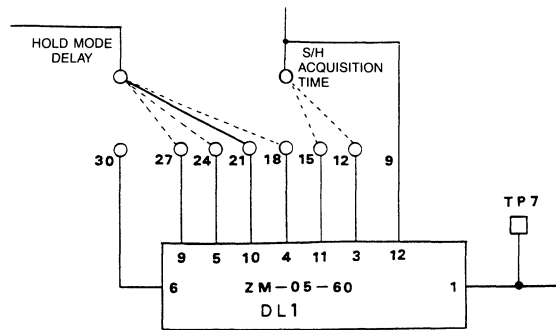

Figure 5. S/H and Delay Selection Settings
The rising edge of the START CONVERT pulse (for conversion N), changes the S/H device from the hold mode into the sample (or acquisition) mode. The acquisition mode lasts for 25 nanoseconds (factory setting) and is determined by the internal gate delays and delay line 1 (DL1). To lengthen the acquisition time, vary the setting of DL1 (see Figure 5).
Upon going into the hold mode, a delay time occurs, allowing the signal to settle at the output buffer of the S/H. This delay is approximately 37 nanoseconds, determined by the internal gate delays as well as DL1 and DL2. DL1 can be varied per Figure 5 to lengthen the duration of the hold mode.
1. There are feedthrough holes labeled as "12, 15,...30" close to the DL1 delay line component and two more holes labeled as "DELAY" and "S/H" close to these holes. Refer to Figure 5 for the specific locations of these holes.